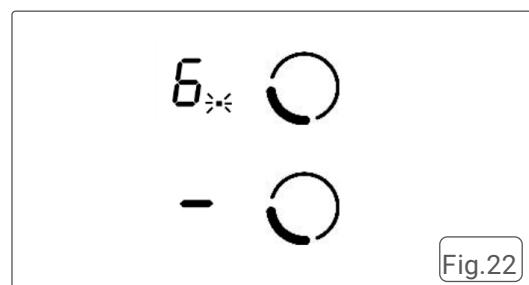

Fig.22
- NOTE:** A red dot will appear in the bottom-right corner of the power level display, indicating that the zone is selected. Fig.22